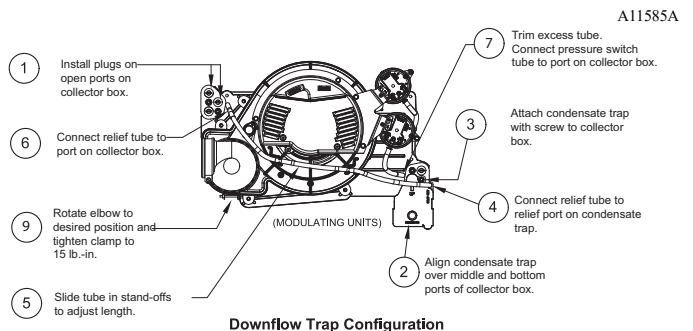

Fig. 8 – Downflow Trap Configuration (Appearance May Vary)
When the furnace is installed in the downflow position, the condensate trap will be initially located at the upper left corner of the collector box, as received from the factory. See the top image in Fig. 8. When the furnace is installed in the downflow orientation, the condensate trap must be relocated for proper condensate drainage. See the bottom image in Fig. 8.
- Fig. 8 shows the condensate trap and tubing before and after relocation. Refer to Fig. 8 To begin the trap conversion.